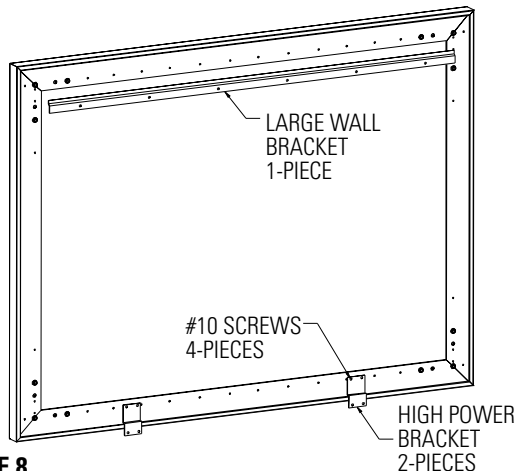

FIGURE 8
1. Secure the large wall bracket to wall studs at the desired height. Make sure the bracket is level. The top of the frame will be 1/8" above the top of the wall bracket when mounted. You will need at least 5/8" clearance above the bracket to hang the screen. See Figure 8.
2. Attach two High Power brackets to the bottom frame rail as shown in Figure 8. use the black #10 screws supplied.